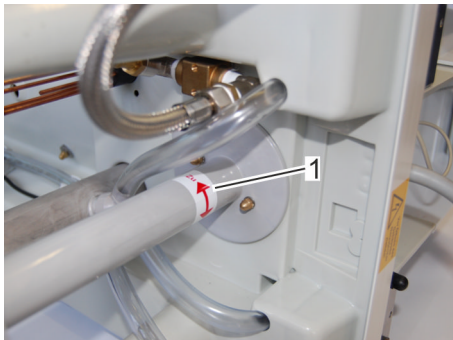

Fig. 49: Attaching the pump
9. ➔ Insert the water pump into the opening and turn in the direction of the arrow until it latches in and sits securely (Fig. 49/1).